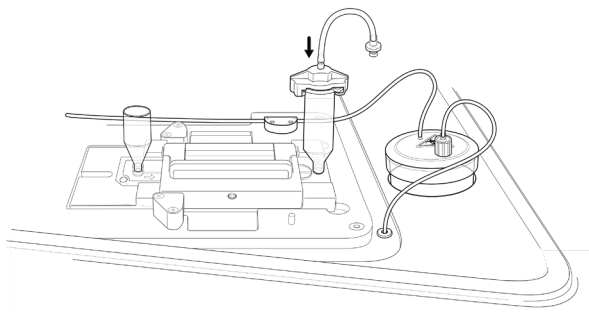

Fig. 36. Attach the Backflow Adaptor.
- Attach the Backflow Adaptor to the Priming Reservoir (Figure 36).